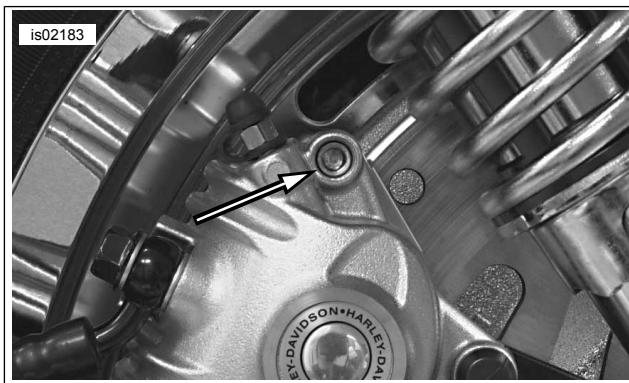

Figure 6. Brake Pad Pin (Plug Removed)
4. See Figure 6. Loosen, but do not remove, brake pad pin.